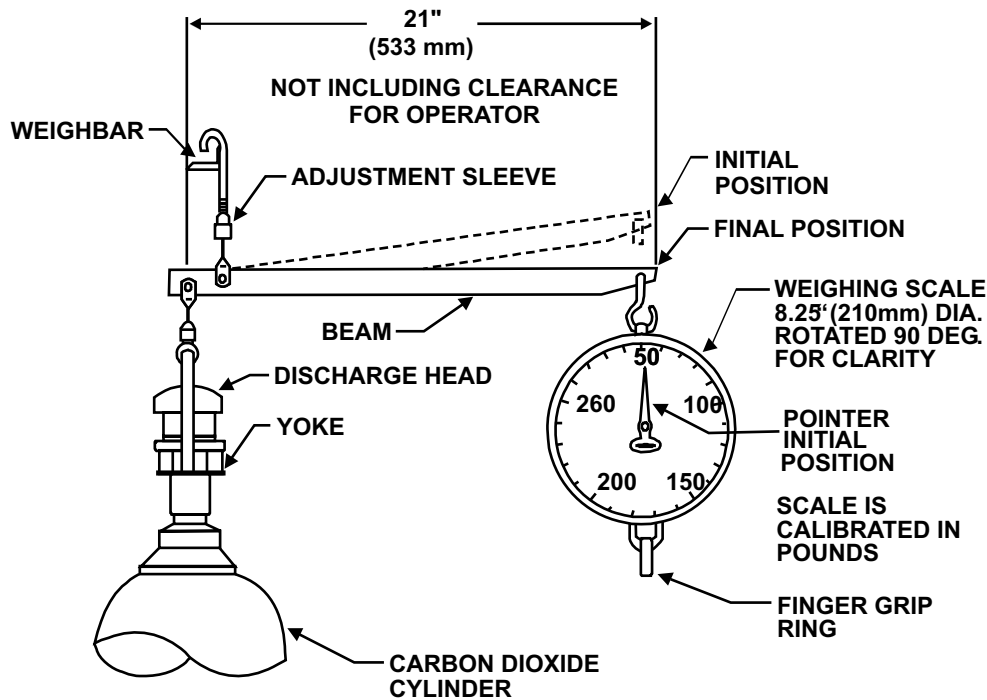

Figure 5-8. Weighing Carbon Dioxide Cylinder Using Scale, P/N 982505
4. Hook scale on weighing angle and slip yoke under discharge head. Adjust lever as shown in Figure 5-8.